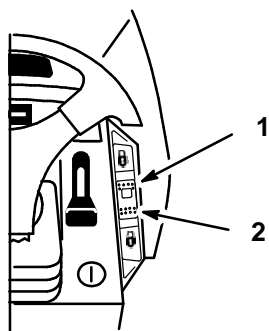

Figure 15
The cruise control is optional on some models. A three position Lock-Set (spring loaded), On and Unlock-Off dash switch (Fig. 15) controls the engagement. Cruise control maintains the traction control position without foot pressure. Cruise control is intended for operation in the forward direction only. Do not use cruise control in reverse.
1. Begin driving tractor: Refer to Driving Forward or Backward, page 18. While holding your foot steady on the traction control, push the cruise control switch (Fig. 15) to the “LOCK-SET” position.
1. While holding your foot steady on the traction control, move the cruise control switch (Fig. 15) to the “UNLOCK-OFF” position.